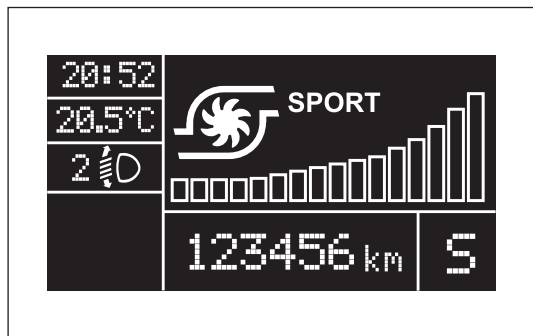

fig. 93
- ☐ Screen with turbocharger pressure: fig. 93.